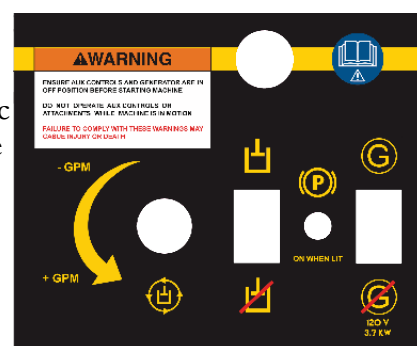

Fig 17
Caution: Never operate an electric tool while driving machine. No operator should be on the machine during the time of electric tool use. Doing so can result in serious injury or death. After the generator is turned on, the park brake is automatically set. Turn on the generator by using the switch on the control panel marked with "G" symbol. (*Fig 17*) After setting park brake you can begin to use the generator. You can use up to 3.7 KW. Please see generator owner's manual for more information.
1. Connect hoses with engine off and adjust the Aux Flow Knob to its lowest setting by rotating clockwise. (*Fig 17*)
2. Start the engine and turn on the Aux Flow circuit by using the switch on the control panel with the hydraulic symbol, next control the generator switch and aux flow knob. (*Fig 17*) At this time the park brake is automatically set.
6. While no one is handling the hydraulic tool flip the Aux Tool switch to off (*Fig 17*) and then turn off the machine. Try to activate the tool to reduce built up pressure and remove the hoses. Turn on the auxiliary tool circuit by using the switch on the control panel. (*Fig 17*)